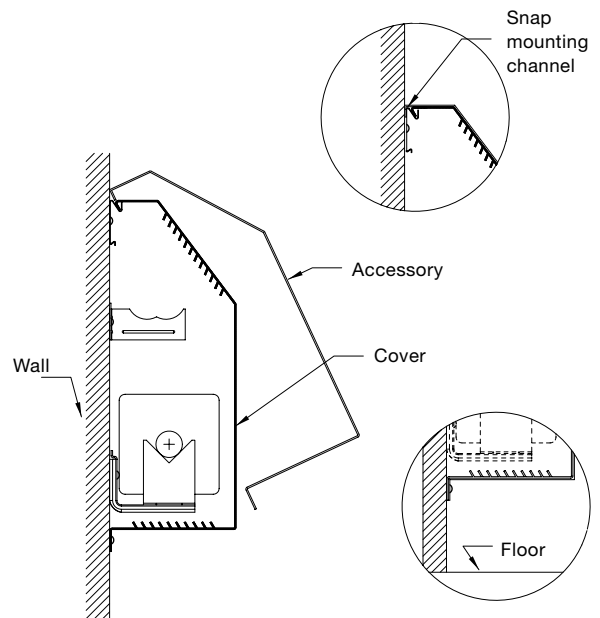

Figure H-6
2. Install accessories between the wall and wall channel at the top and around the cover at the bottom. Secure accessory to wall using suitable fasteners. (Figure H-6)